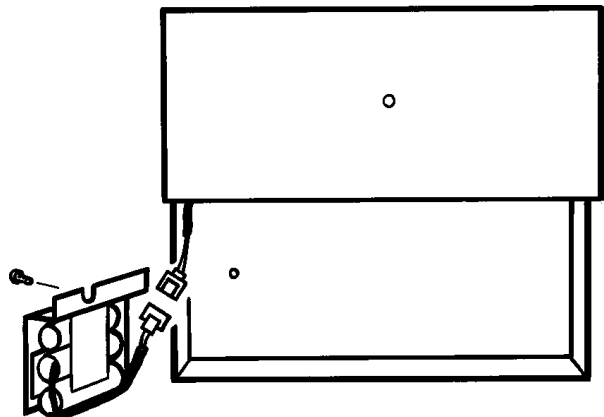

Figure 4.8.2c Battery pack disconnection
3. Disconnect the battery pack as shown in figure 4.8.2c